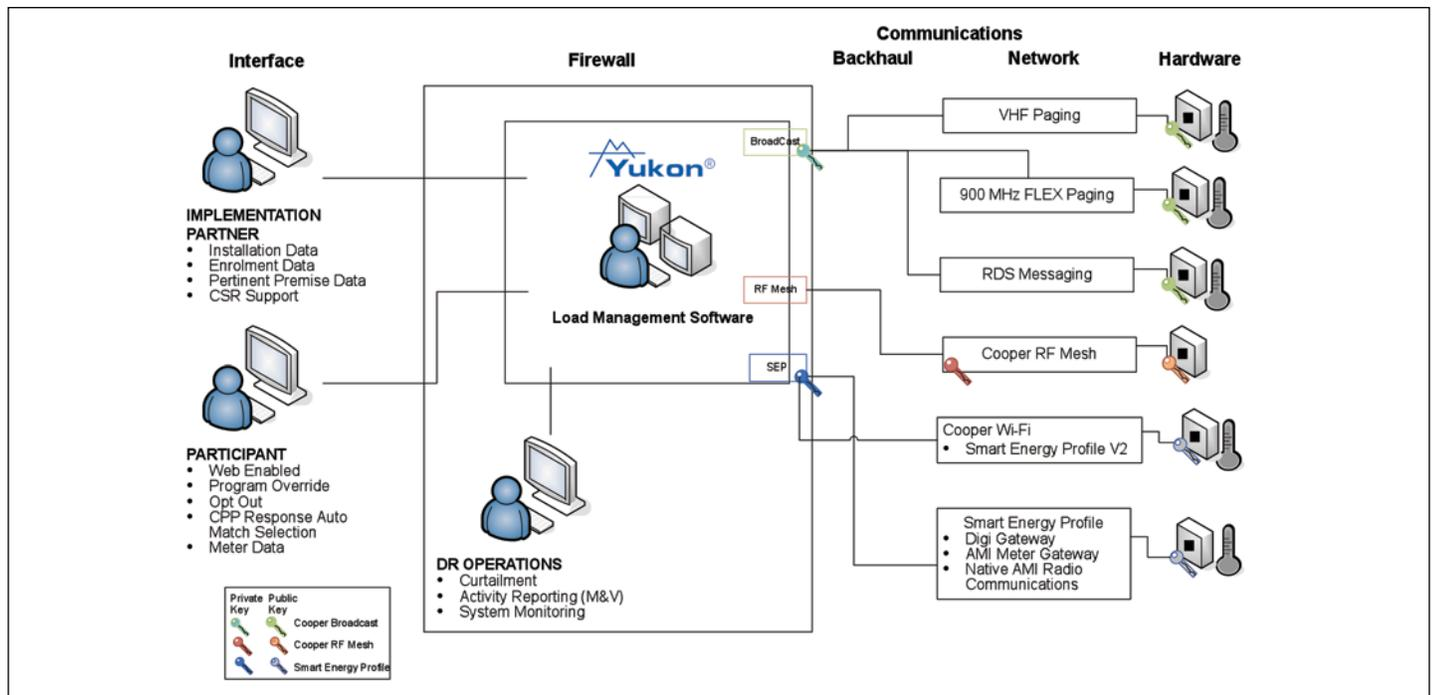

Figure 5. DR device communication overview
**Figure 5** provides an overview of the communications options for residential and small commercial DR systems.
The sections that follow provide details on the communication system and security for each of the DR network communication types shown in **Figure 5**.